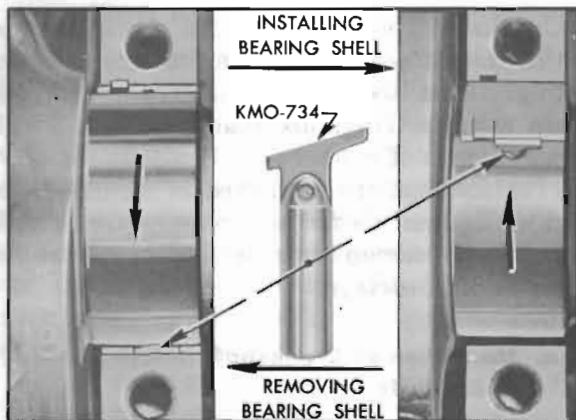

Figure 2-28—Removing and Installing Crankshaft Bearing Upper Shell
2. Remove upper bearing shell by inserting Bearing Shell Remover and Installer KMO-734 in oil hole in crankshaft, then slowly turning crankshaft so that the tool rotates the shell out of place by pushing against the end without the tang. See figure 2-28. **CAUTION:** When turning crankshaft with rear bearing cap removed hold oil seal to prevent it from rotating out of position in crankcase.